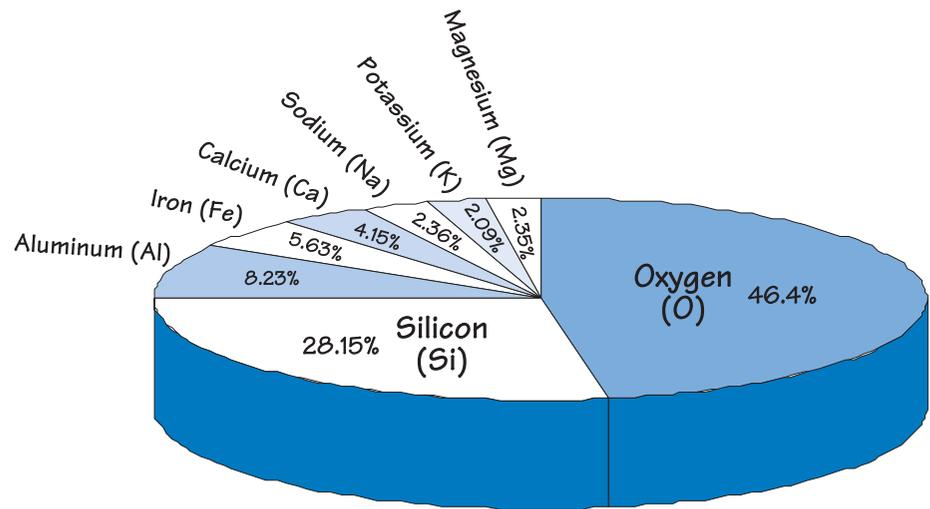

Figure 5.1: Mineral percentage by mass in the Earth's crust.
Elements are the building blocks of minerals. The mineral quartz, for example, is made of the elements silicon and oxygen. Most minerals present in nature are not composed of a single element, though there are exceptions such as gold (Au). Eight elements make up (by weight) 99% of the Earth's crust, with oxygen being by far the most abundant (46.4%). The remaining elements in the Earth's crust occur in very small amounts, some in concentrations of only a fraction of one percent (*Figure 5.1*). Since silicon (Si) and oxygen (O) are the most abundant elements in the crust by mass, it makes sense that quartz (SiO_2 , silicon dioxide or silica) is one of the most common minerals in the Earth's crust and is found all over the Midwest.